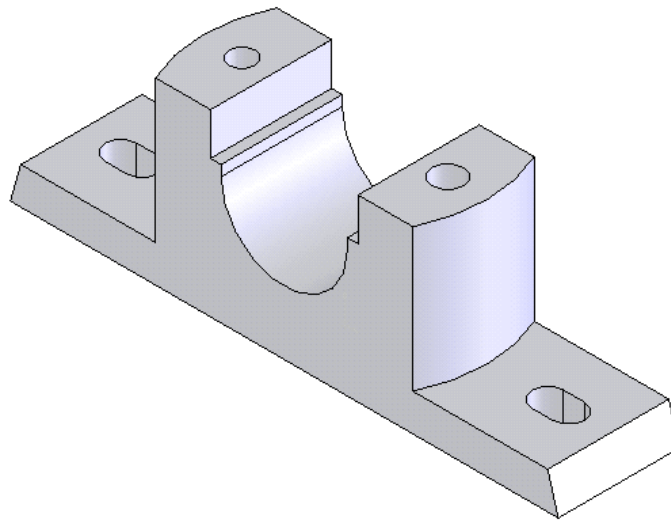

Figure 6-87 Model after adding the cut feature
- f. Create the cut feature on the second top planar face of the base feature, refer to Figure 6-87.
15. The next feature of the model is a cut feature. To create this feature you will have to create the sketch on the second top planar face of the base feature. The model after adding the cut feature is shown in Figure 6-87.